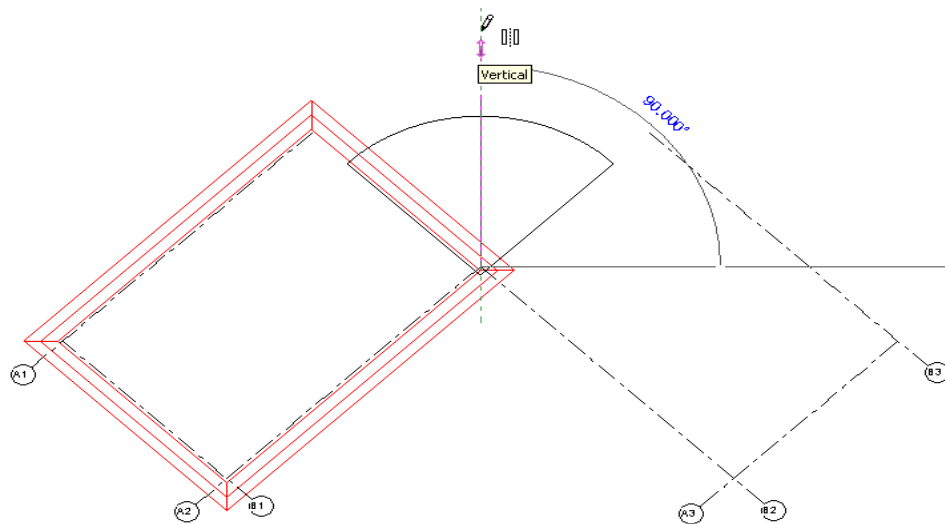

Figure 6-40 Created floor type LW Concrete on Metal Deck
8. Choose **Finish Sketch** from the **Sketch** tab of the **Design Bar** to complete the floor. The floor of the selected type is created, as shown in Figure 6-40.